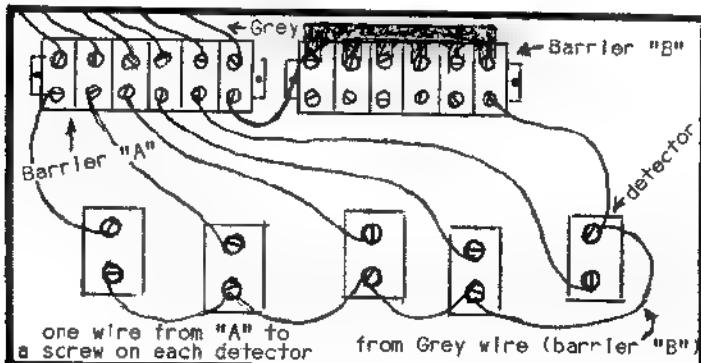

Fig. 3
- 2) Now you will have to run a wire from each terminal on barrier A, to one terminal on each detector (see Fig. 3). LSE OPEN CIRCUIT DETECTORS ONLY-FOR SIMPLIFICATION OF THIS VERSION OF THE CIRCUIT.